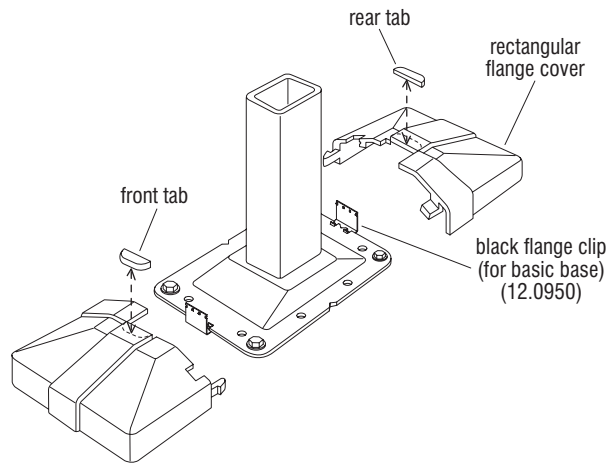

Figure 4 - Basic Base
8. Break out tabs in plastic covers to fit around rectangular columns. Snap together around column. Push down to engage flange clips. Push tight to floor. Note direction of column before breaking out tabs (Figure 4).